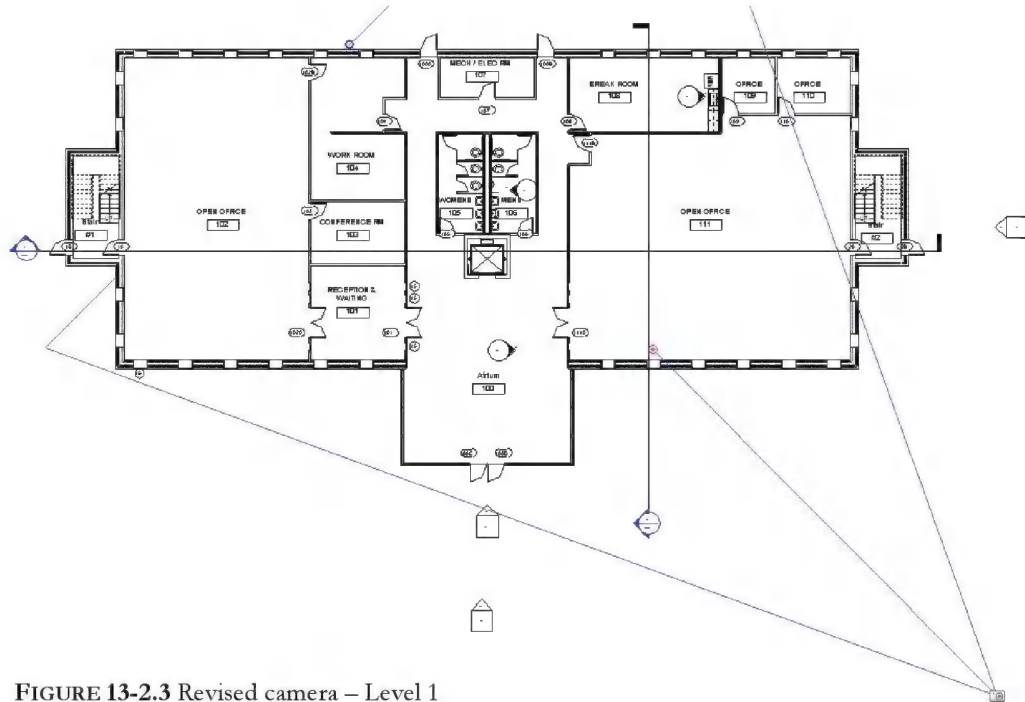

FIGURE 13-2.3 Revised camera – Level 1
7. Adjust the camera, using its grips, to look similar to Figure 13-2.3.